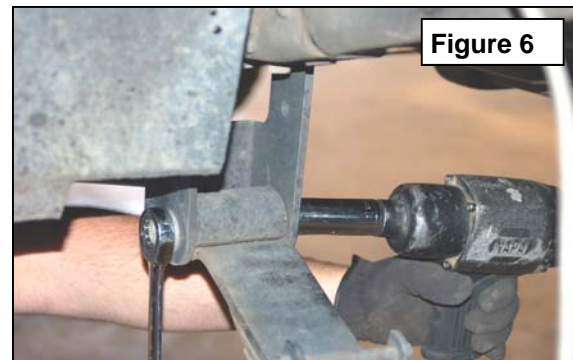

Figure 6
9. Remove the stock rear spring shackle upper and lower bolts using a 21mm and 24mm wrench and retain hardware for re-use. **See Figure 6.**